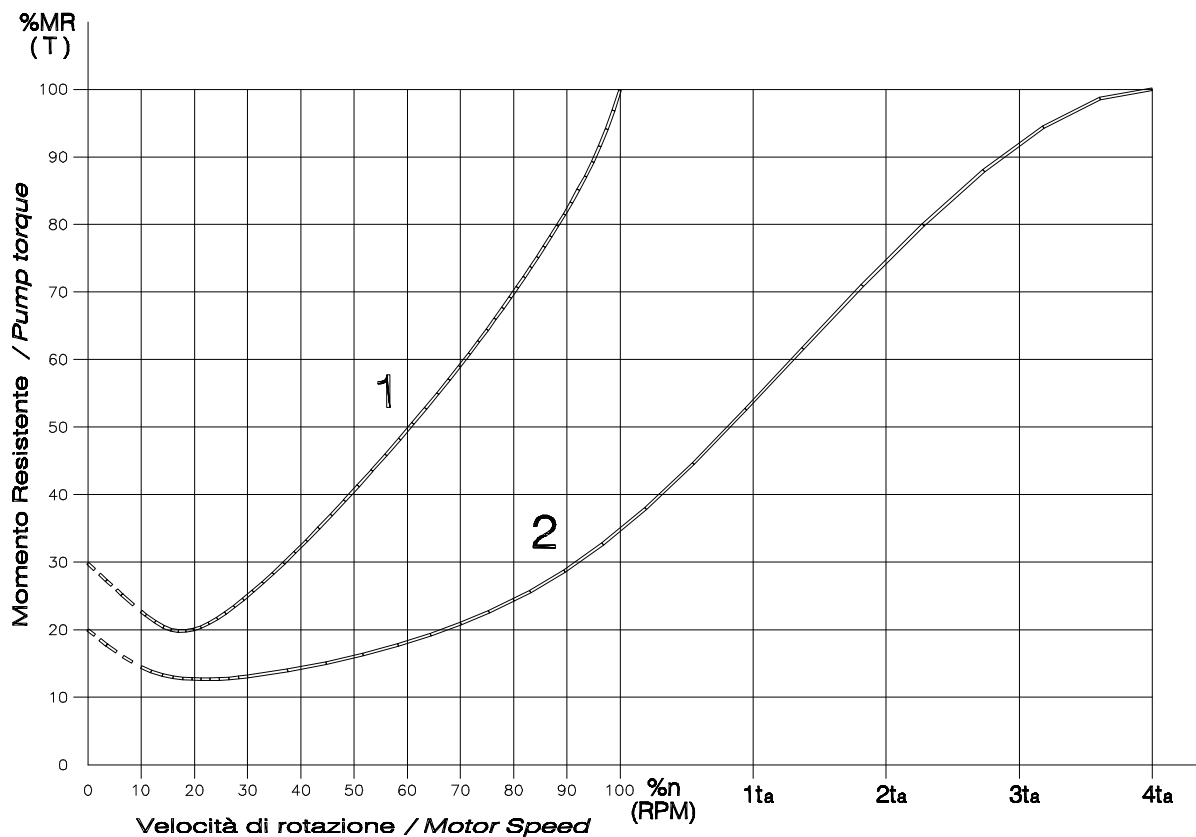

Fig. 2
Starting torque can be calculated knowing the operating torque (T) and adopting the values given by curve 1 and curve 2 of Fig. 2 below.